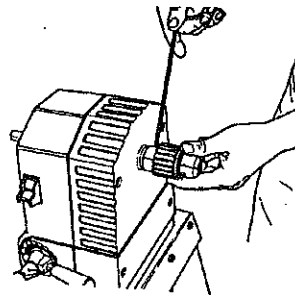

Fig.H-22
3. Install the drill chuck on the outer shaft, shown in Fig.H-22. Securely tighten the setscrew.